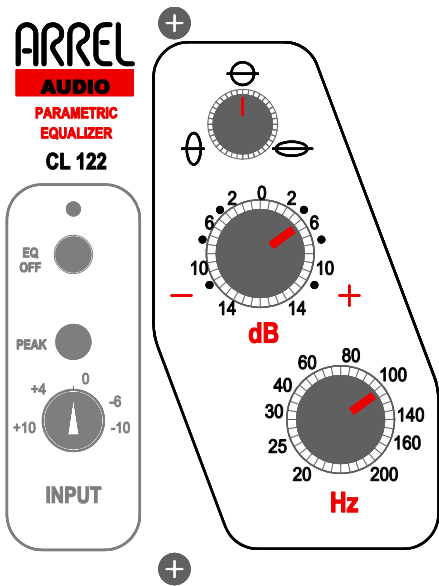

Fig. 3 Equalizer Section Controls
Turn the Q knob in order to select the required Q value (Fig. 3).
Emphasis/De-Emphasis: rotate the dB knob in Anti Clock Wise (ACW)/ Clock Wise (CW) direction to select the gain in the ± 14 dB range (Fig. 3) (center detent potentiometer).
Turn the Hz knob in order to select the required frequency band (Fig. 3).